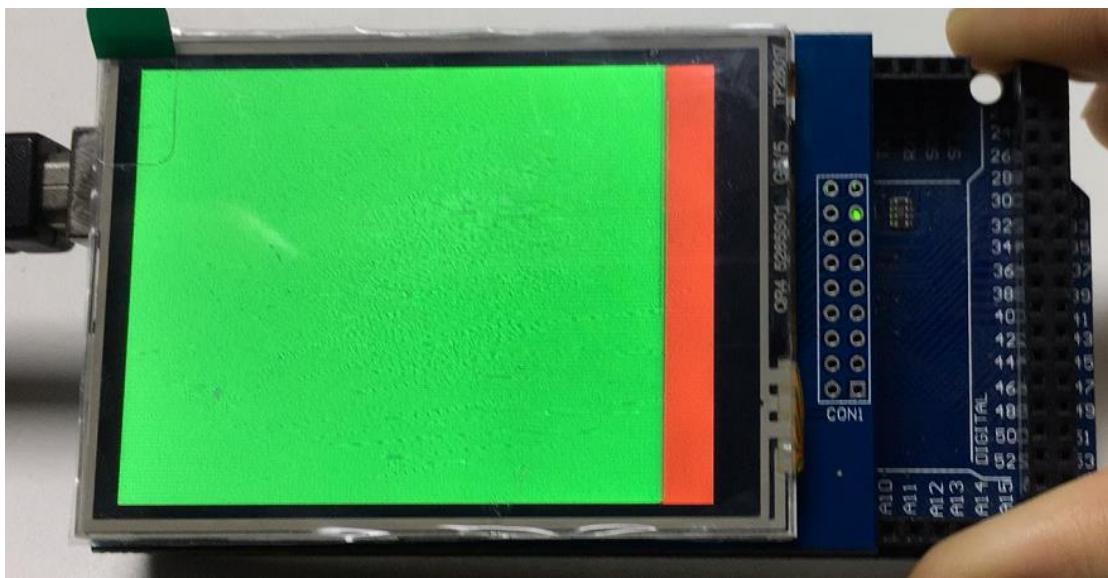

Figure 27
(5) Click the “upload” button  , and wait for the completion of the programming. (See Figure 27)